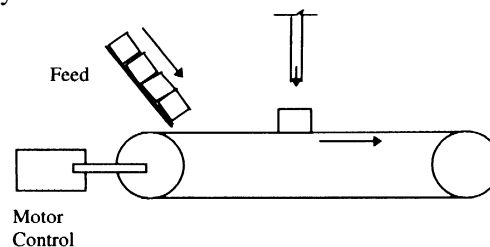

Figure 2
6. Figure 2. The sensors monitor the amount of solid or liquid filled. A conveyor mechanism transports the containers. Under the concept of VDI 2206, design a mechatronic system for the case described. Identify the types and features of sensors you use, describe how the system works and explain how you are going to interface and control the system. Make suitable sketches if needed.